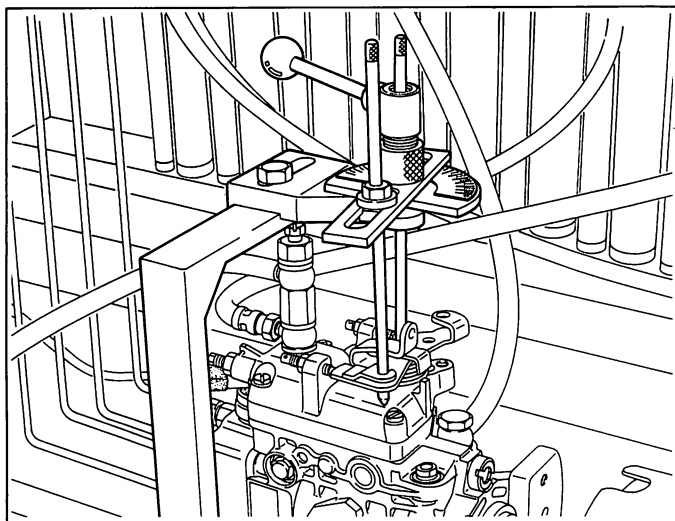

Fig. 116 Installing the measuring device
2. Install the injection pump measuring device (105782-6230) to measure the control lever angle. (Fig. 116)